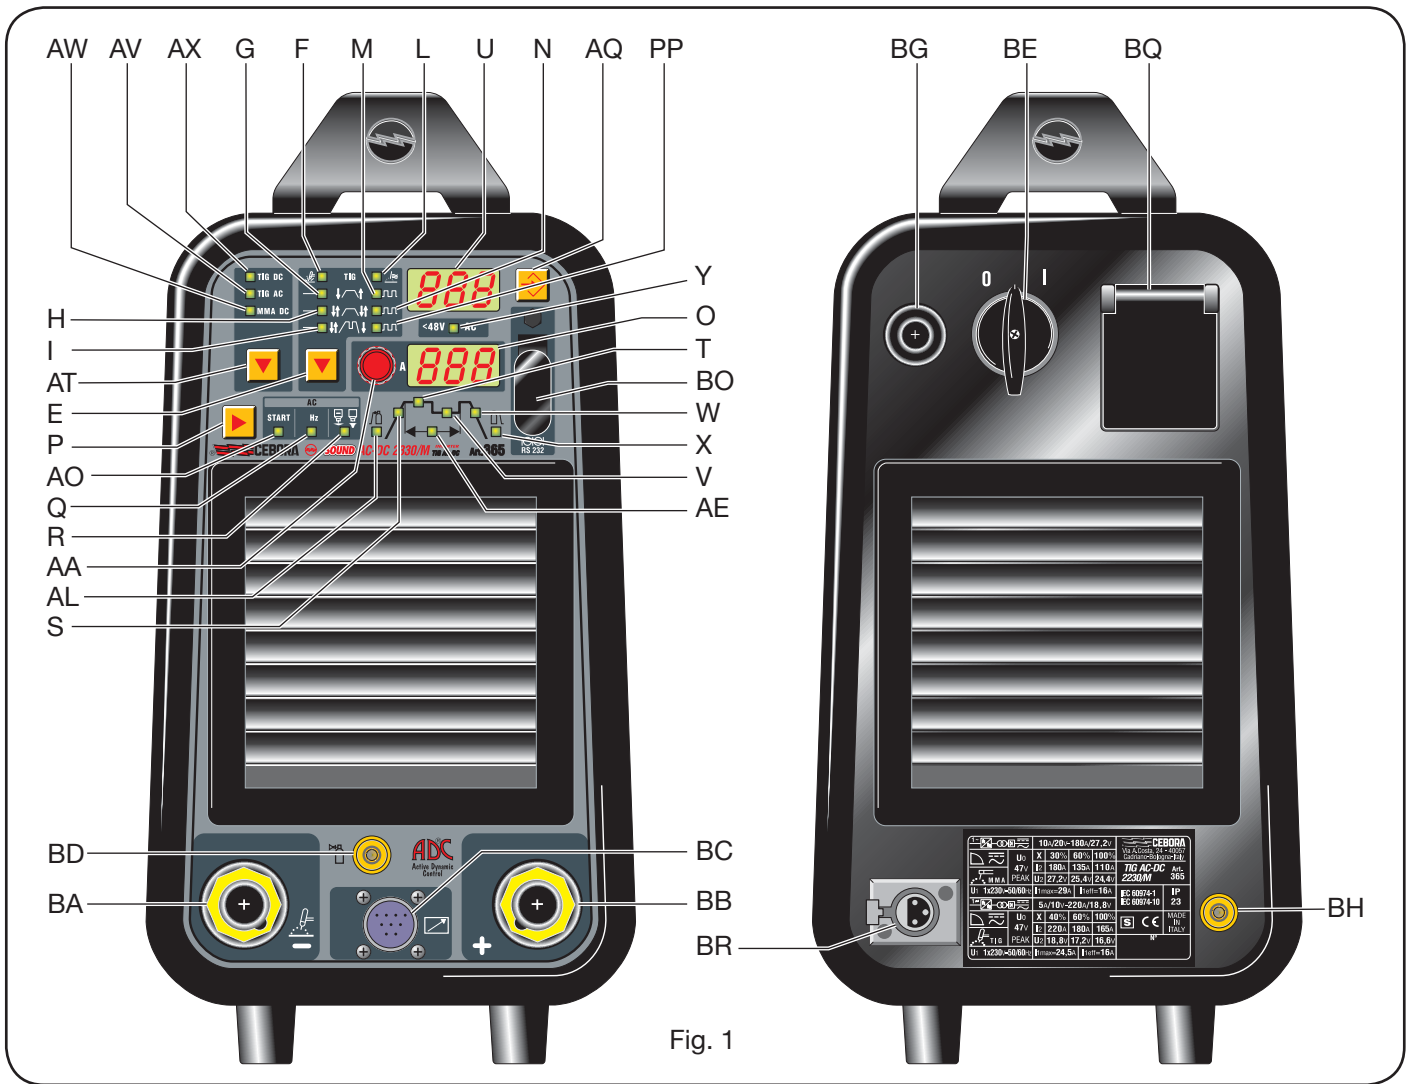

Fig. 1
3.2 DESCRIPTION OF THE EQUIPMENT (FIG.1).